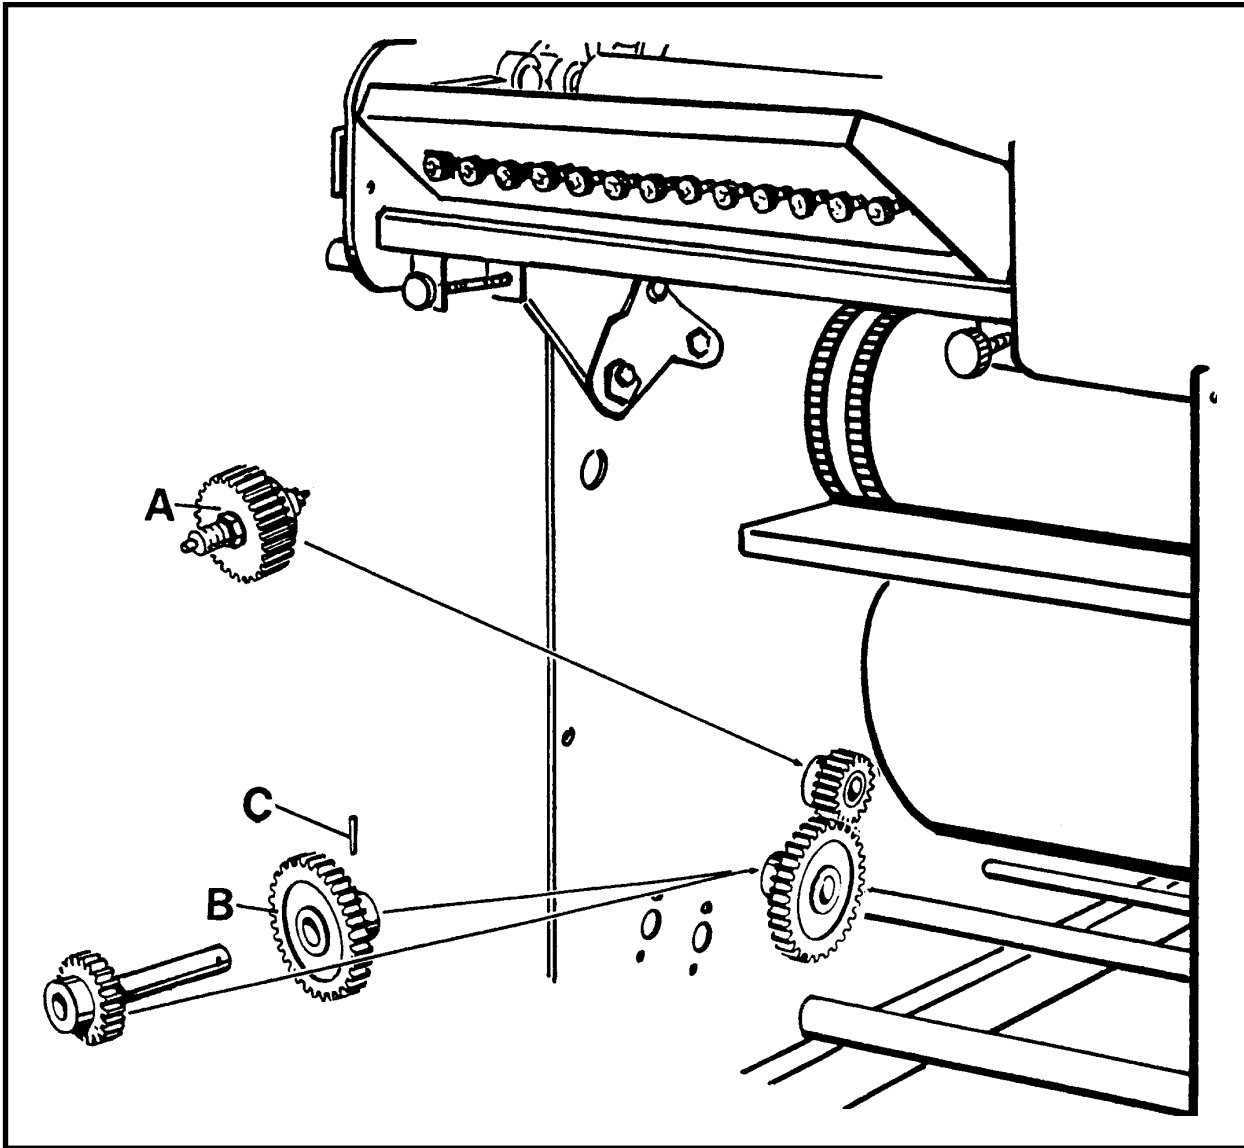

Figure 79 - Gear Removal
3. Remove the gear (A) and stud (see Figure 79).
4. Remove the compound gear (B). Do not remove both pins; remove only the pin (C) shown in Figure 79.
8. Remove the impression cylinder lever (G) which is located on the non-operator side of the press (see Figure 79).